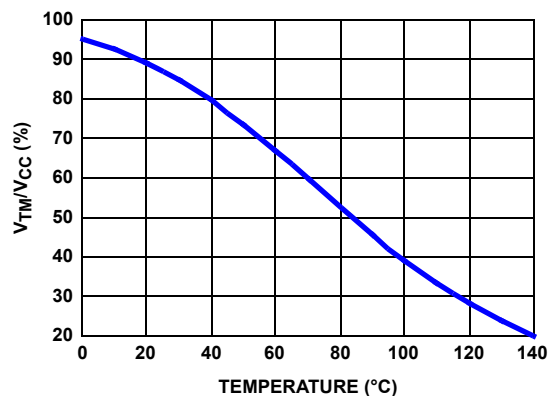

FIGURE 18. THE RATIO OF TM VOLTAGE TO NTC TEMPERATURE WITH RECOMMENDED PART
the respective power stage of the voltage regulator VR to sense the operational temperature, and pull-up resistors are needed to form the voltage dividers for the NTC pin. As the temperature of the power stage increases, the resistance of the NTC will reduce, resulting in the reduced voltage at the NTC pin. Figure 18 on page 18 shows the TM voltage over the temperature for a typical design with a recommended 10kΩ NTC (P/N: NCP15XH103J03RC from Murata, $\beta = 3380$) and 1.54kΩ resistor R_{TM} . It is recommended to use those resistors for the accurate temperature compensation since the internal thermal digital code is developed based upon these two components. If a different value is used, the temperature coefficient must be close to 3380 and R_{TM} must be scaled accordingly. For instance, say $NTC = 20k\Omega$ ($\beta = 3380$), then R_{TM} should be $20k\Omega / 10k\Omega * 1.54k\Omega = 3.08k\Omega$.
Based on the V_{CC} voltage, the ISL68201 converts the NTC pin voltage to a digital signal for temperature compensation. With the nonlinear A/D converter of the ISL68201, the NTC digital signal is linearly proportional to the NTC temperature. For accurate temperature compensation, the ratio of the NTC voltage to the NTC temperature of the practical design should be similar to that in Figure 18.
1. Properly choose the voltage divider for the NTC pin to match the NTC voltage vs temperature curve with the recommended curve in Figure 18 on page 18.